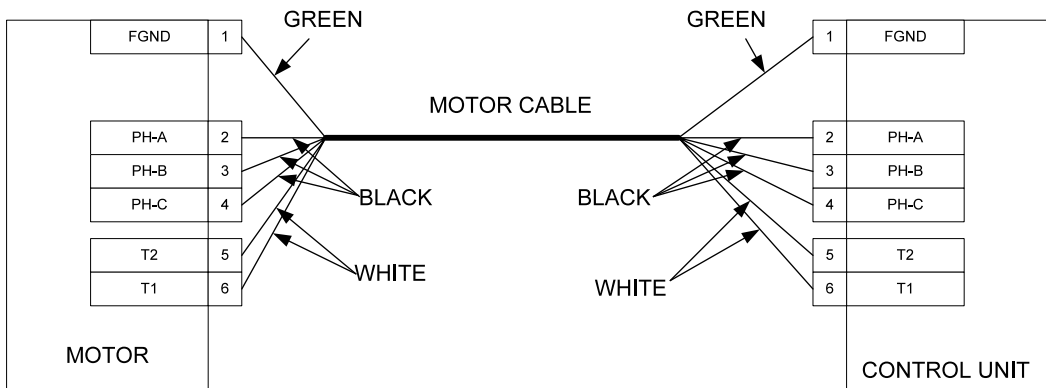
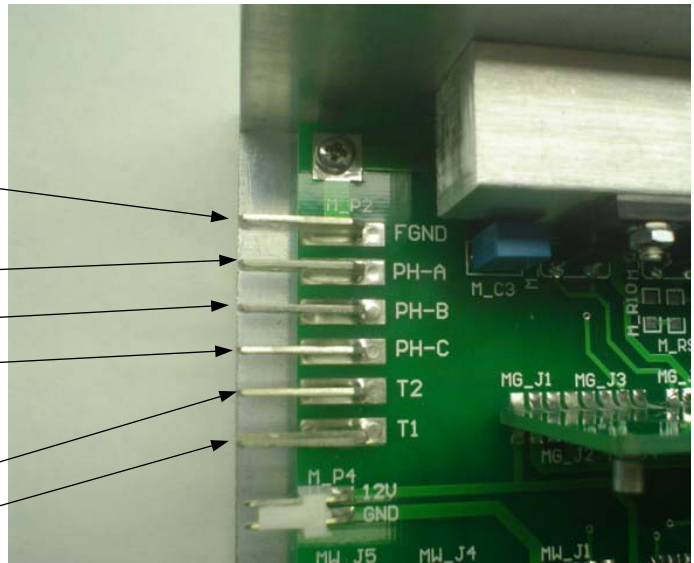
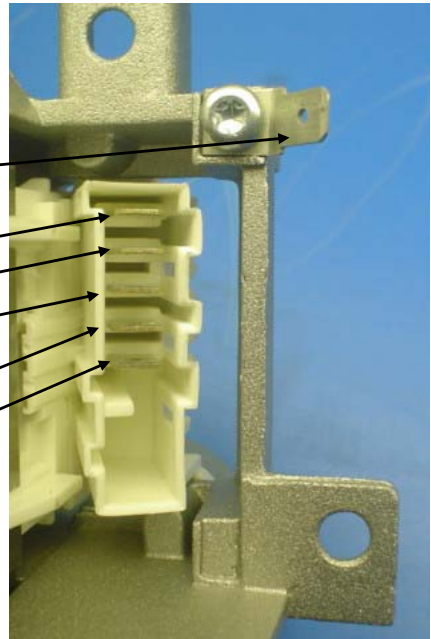

Figure 4. Control Unit and Motor Connection Diagram
Figure 5. Control Unit Connection
Figure 6. Motor Connection
9. Connect the motor to the Control Unit using the motor cable as shown in Figure 4 on page 8, Figure 5 on page 9, and Figure 6 on page 10.